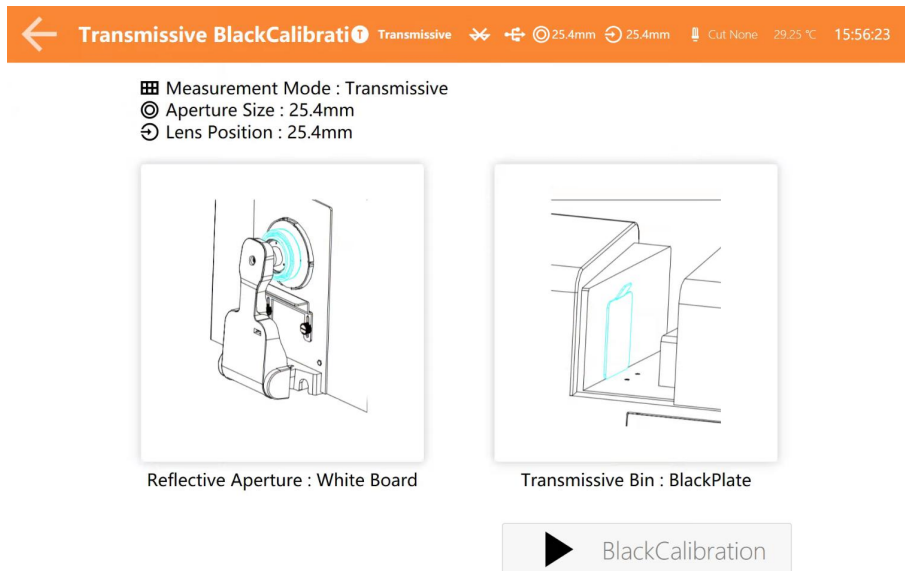

Figure 8 Transmissive Black Calibration
1. Enter into main menu as shown in Figure 8, click "Calibration" to enter transmissive black calibration. Place the transmission black plate into transmission sample bin and stick it to the side of integrating sphere tightly, put white board in reflective aperture and click the "Black Calibration" to start calibration.